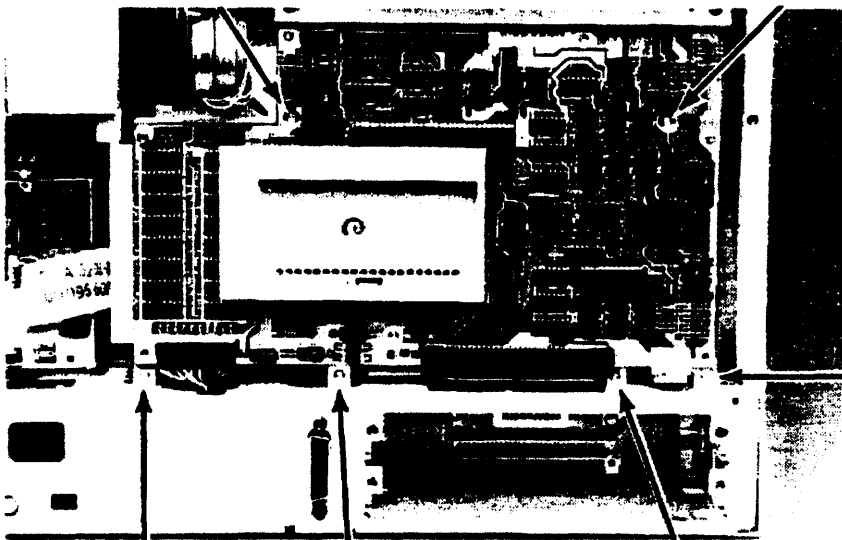

Figure 6-5. PCA Mounting-Panel Screws
3. Remove the six screws holding the PCA mounting panel (see figure 6-5).
5. Remove the six screws holding the PCA mounting panel (see figure 6-5).